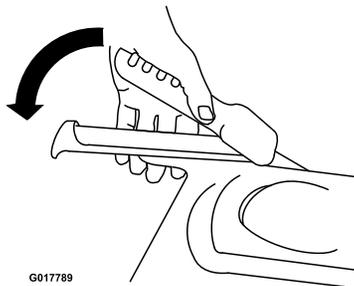

Figure 7
2. Slowly squeeze the left hand traction drive lever to the handle (Figure 7).